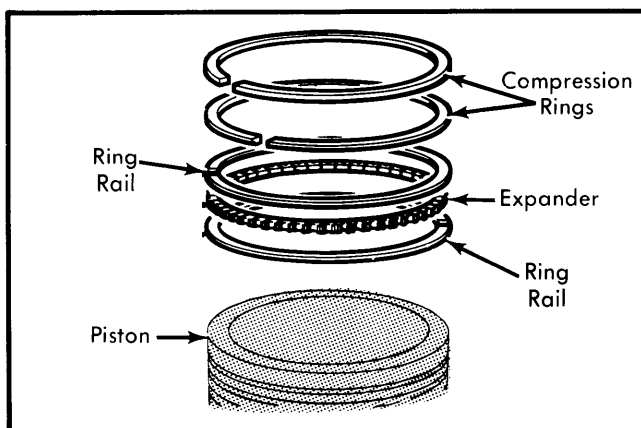

Fig. 5 Positioning Piston Rings
3) Position oil control piston rings so gaps are all on one side, between piston pin and thrust face. See Fig. 5. Ring rail gaps should be 1" (25 mm) to each side of expander ring gap.